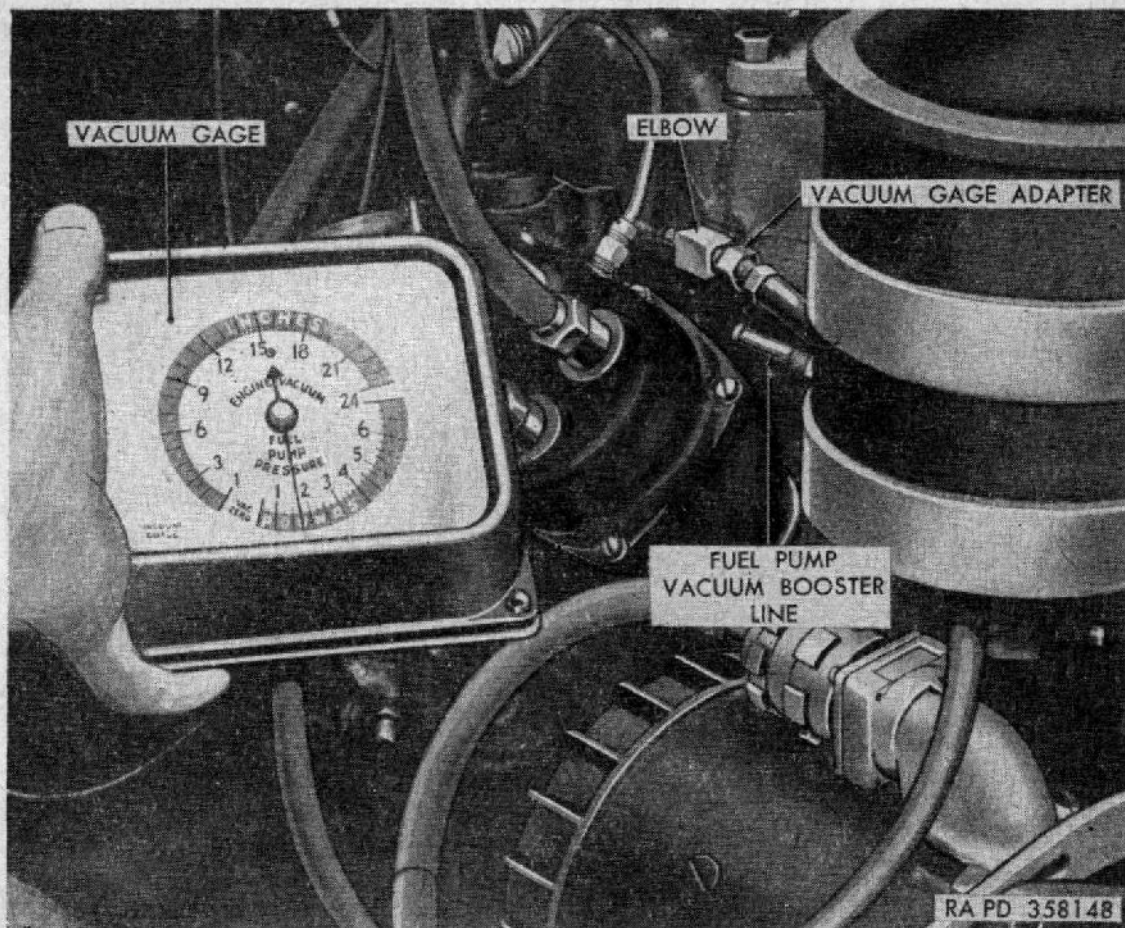

Figure 21. Checking intake manifold vacuum.
- (1) Disconnect fuel pump vacuum booster line (fig. 21) from elbow or right side of cylinder head below carburetor. Attach vacuum gage adapter (fig. 21) to elbow.
- (2) Start engine and run at idling speed until minimum operating temperature (160° F.) is reached. Check carburetor adjustments (par. 102). With the engine running at normal idling speed, vacuum gage (fig. 21) should show a reading of 18 to 21 inches of mercury and pointer should be steady. A pointer fluctuating between 10 and 15 inches of mercury may indicate a leaking valve or defective cylinder head gasket. An abnormally low reading with the pointer steady may indicate a leak at the carburetor.
- (3) Accelerate and decelerate the engine quickly. Vacuum should drop to approximately 2 inches of mercury with rapid acceleration and should rise to 24 inches of mercury as acceleration is decreased quickly with the engine running fast. If this action is not obtained, diluted engine oil, worn piston